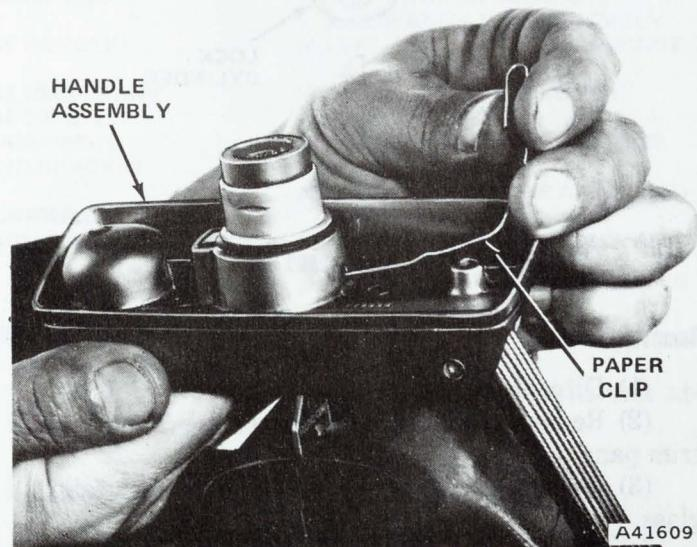

Fig. 3H-28 Removing Lock Cylinder from Handle Assembly
- (1) Remove window regulator handle assembly.
- (2) Insert key and turn to locked position.
- (3) Insert small drift or paper clip into hole provided in handle and compress spring-loaded plunger (fig. 3H-28).